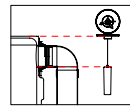

Figure 1
hole, slowly lower the float (**no faster than 10cm/second**) until the top of the float is level to the bottom of the overflow outlet (see Figure 1), and press SET once to confirm FULL height.
3. Hold the base of the Transmitter at the same height as the installation hole and move the float so its top is level to the bottom of the overflow outlet, see Figure 1 in "Tank Height Setting".